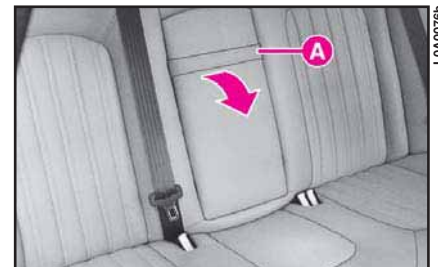

fig. 204
1) From the rear seat, lower the armrest using handle **A** (fig. 204).